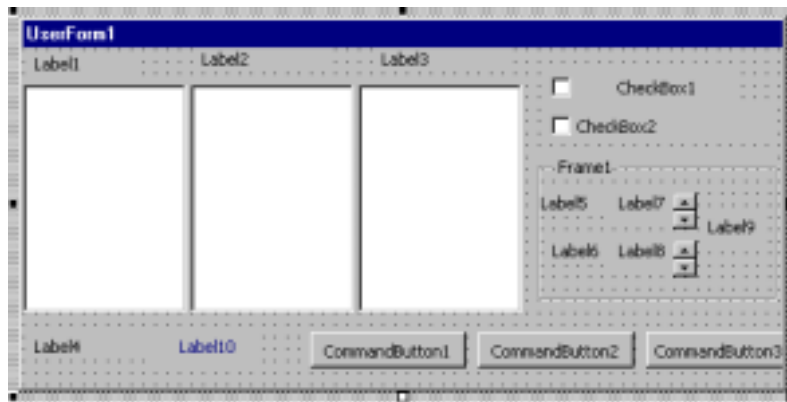

Figure 31: Chart Measurements form before changing default captions and appearance of controls
7. Add controls to design the Userform, making sure that each control is placed as shown in Figure 31. Note the use of two spin button controls inside Frame1.
Table 13 summarizes all the changes to make in the Properties window to convert the UserForm from its appearance in Figure 31 to its final appearance.